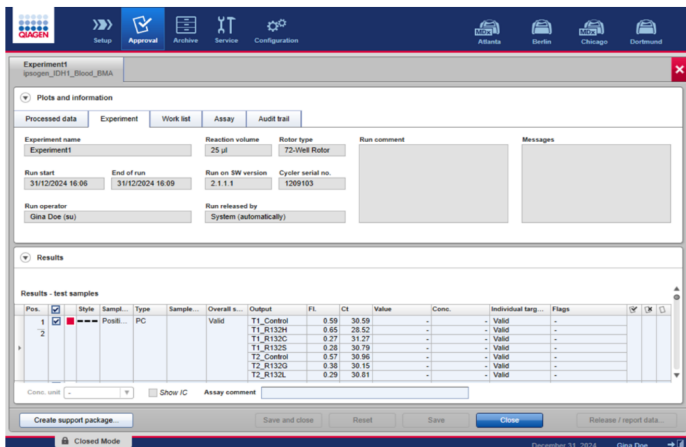
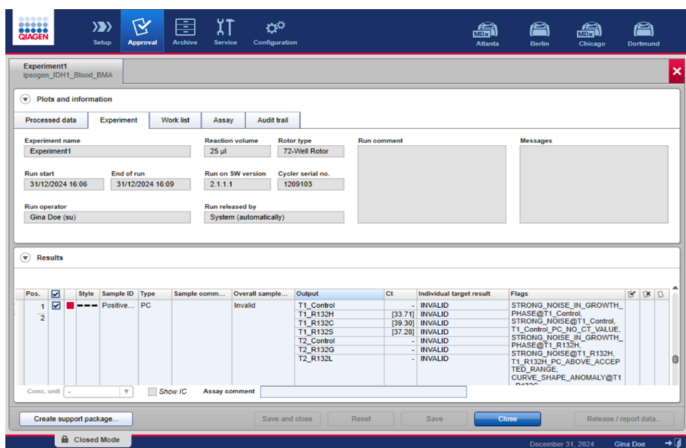

Figure 16. Valid "Assay Results" window.
Figure 17. Invalid "Assay Results" window.
16. Processed data, experiment information, assay, and audit trail information can be found in the “Plots and information” window. Assay results can be found in the “Assay Results” window. If the Positive Control and No Template Control results are within an acceptable range, the “Overall sample result” column will report “valid” (Figure 16); otherwise, an “INVALID” result will appear (Figure 17).